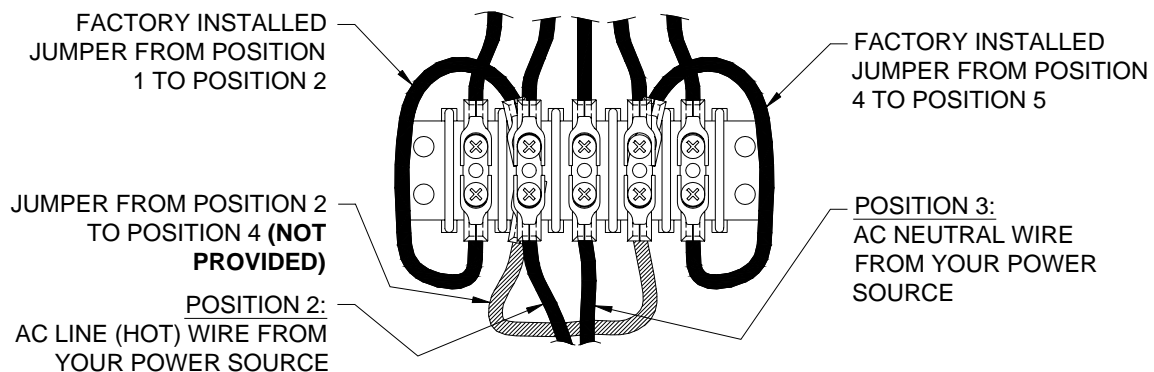

Figure 8 120 VAC Connections
- If you are going to connect the scoreboard to a 120 VAC supply, connect the AC line wire to position 2 and the AC neutral wire to position 3 of terminal strip T3 on the junction chassis. Add a jumper from position 2 to position 4. **This jumper is not provided.** Refer to figure 8.